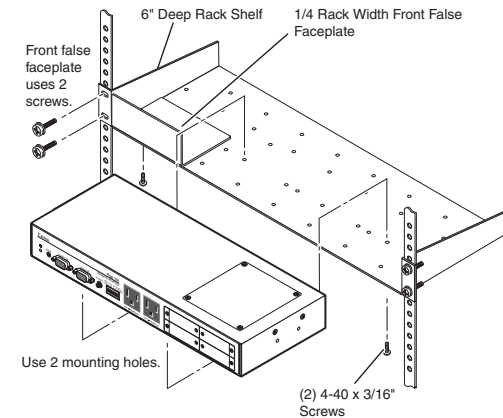

Figure 2-3 — Rack mounting
2. Mount the interface on either side of an 19" 1U Universal Rack Shelf (part # 60-190-01) using two 4-40 x 3/16" screws to secure it to the shelf. See figure 2-3.